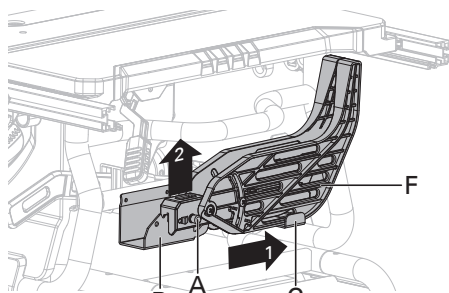

Fig. 9a
BLADE GUARD INSTALLATION (Fig. 9a-9c)
- Hold the knobs (A) (one on either side of the blade guard) and push the knobs forward to the front of the blade guard and up until the pin comes out from the slot in the mounting bracket (blade guard storage) (B) at bottom front right side of the saw, then remove the blade guard from the U-bracket (blade guard storage) (C) at bottom middle right side of the saw (Fig. 9a).